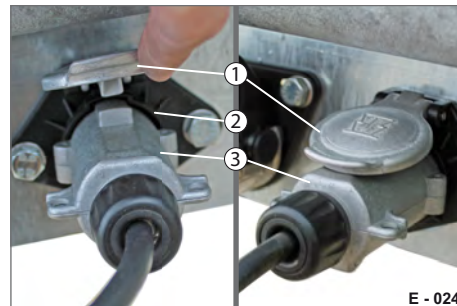

Fig. 8 Plug, parked
- ▶ Open the cap (Fig. 8/1).
- ▶ Pull the plug (Fig. 8/3) from the parking socket (Fig. 8/2) - do not pull on the cable.